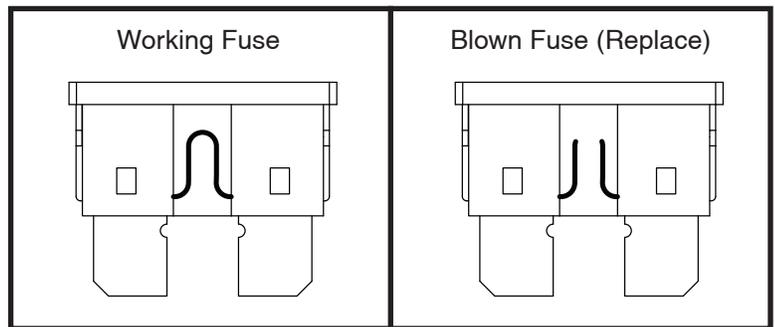

Figure 19. Fuse Replacement
2. Examine the fuse to be sure it is blown. See **figure 19**.